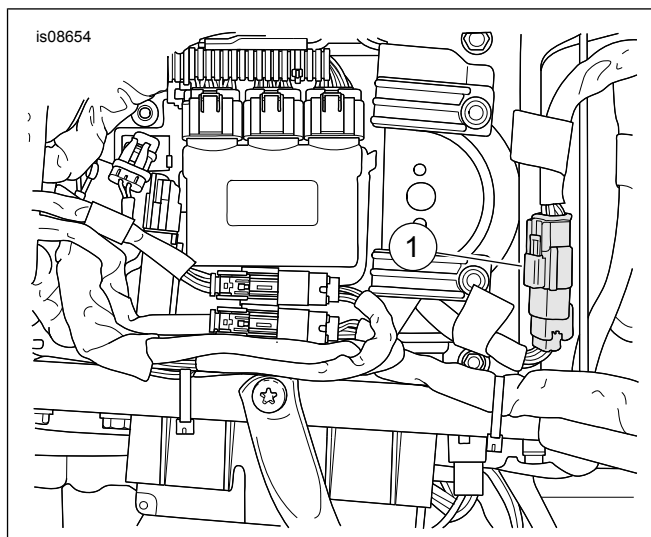

Figure 3. Run/Brake Light Connector [7A]
16. See Figure 3. Disconnect harness connector [7A] (1). Connect jumper harness to connector (1). Connect OE connector to the jumper harness connector.